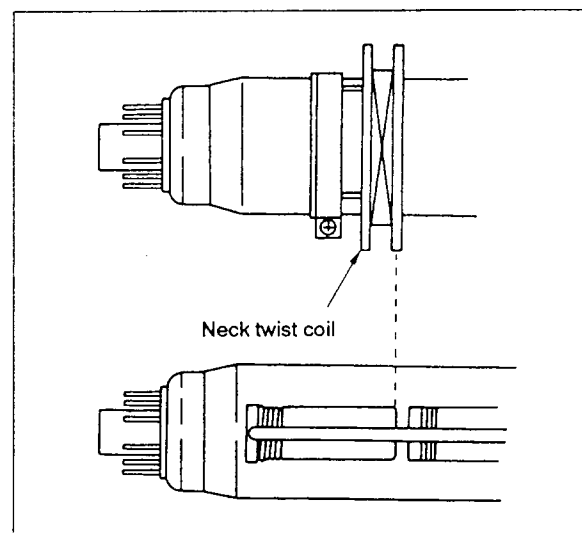

Fig. 6-3-5
- 10) fix the neck twist coil as shown in Fig. 6-3-5.